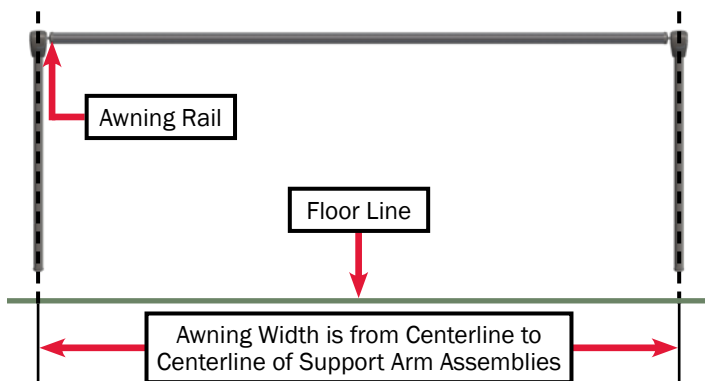

**Figure 1**
**NOTE:** Awning rail **MUST** be level and parallel with the floor line of the unit (Figure 1).